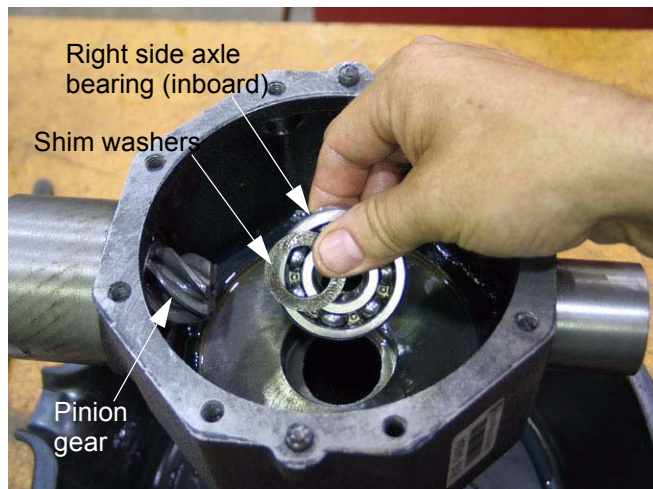

Figure 9.15
9.15. The shim washers and inner axle bearing can be easily removed from the right side axle housing. See Figure 9.15.